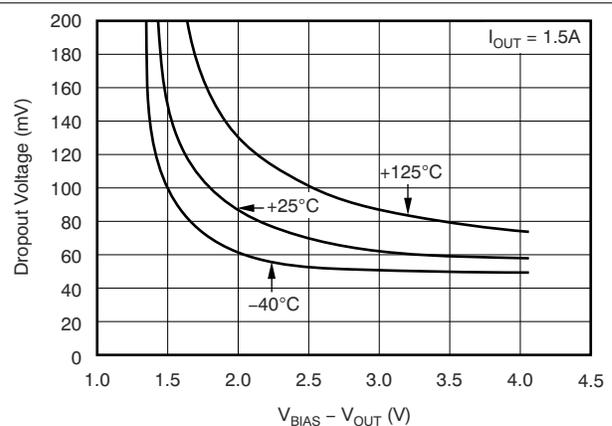

图 6-6. V_{IN} 压降电压与 $(V_{BIAS} - V_{OUT})$ 和温度 (T_J) 间的关系
- (1) Adjustable devices tested at 0.8 V; resistor tolerance is not taken into account.
- (2) Dropout is defined as the voltage from V_{IN} to V_{OUT} when V_{OUT} is 3% below nominal.
- (3) 3.25 V is a test condition of this device and can be adjusted by referring to Figure 6.6.